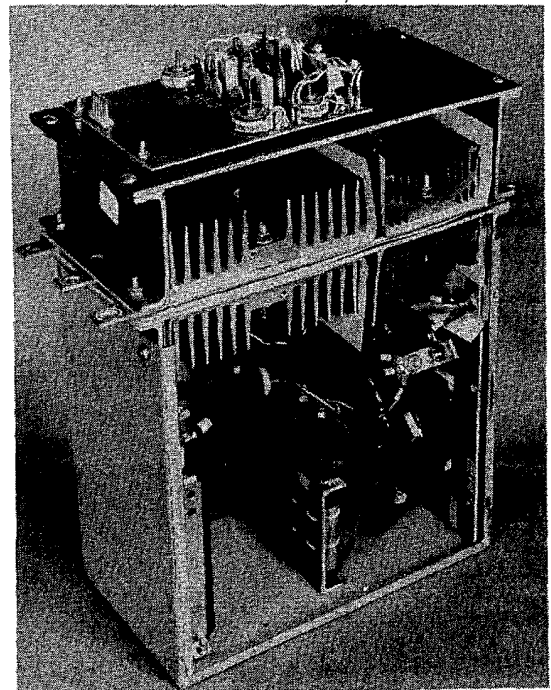

FIGURE 22
2. Stand the phase module on its back side on a table. The pulse transformer printed circuit card should be on top. (Normally on the front of the module). See Figure 22.